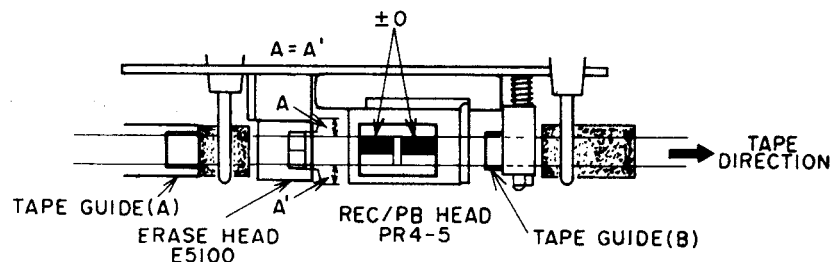

Fig. 6-2
- 2) Adjust the tape guide (A) so that the parts of the erase head coming out of both sides of the tape (A and A' in Fig. 6-2) will be equal. For the adjustment, use the adjustment nut (A).
- 3) Adjust the tape guide (B) so that the tape runs smoothly and is not hitched by the tape guide.